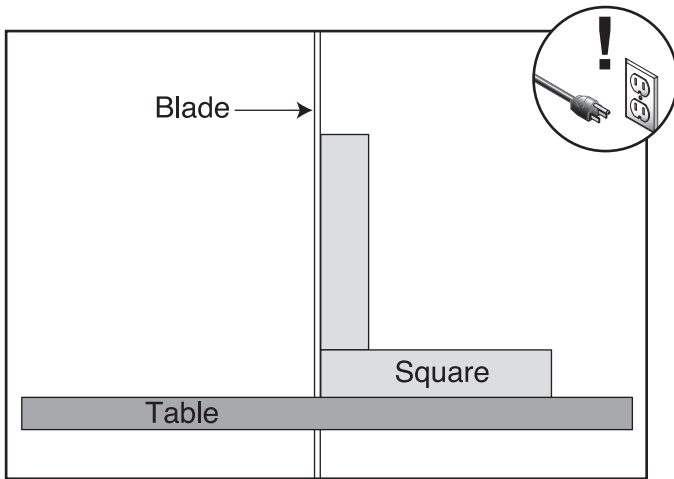

Figure 28. Squaring table to blade.
5. Raise upper blade guide assembly and place a 6" machinist's square or try-square on table next to side of the blade as illustrated in **Figure 28**. Adjust positive stop bolt to raise or lower table until table is 90° to blade.